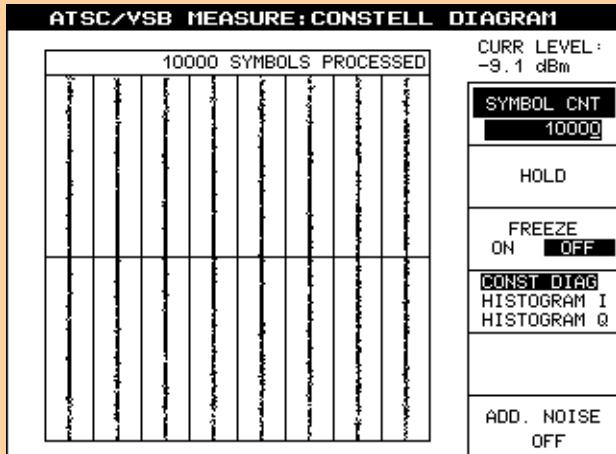

Fig. 2: Constellation diagram
- ◆ I/Q constellation diagrams (Fig. 2) with user-selectable number of symbols to be displayed, range: 1 to 999 999 999 symbols